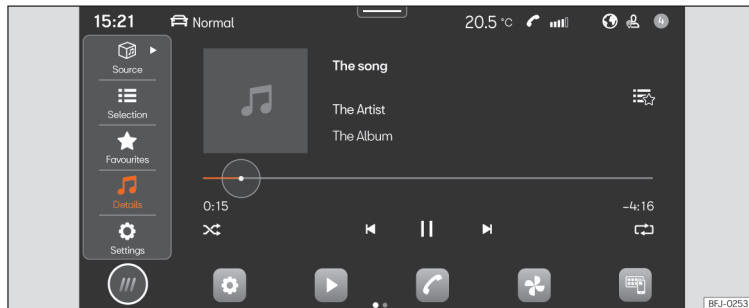

Fig. 162 Schematic diagram: Media view
- Press **HOME** > ► >>> **Fig. 162**.